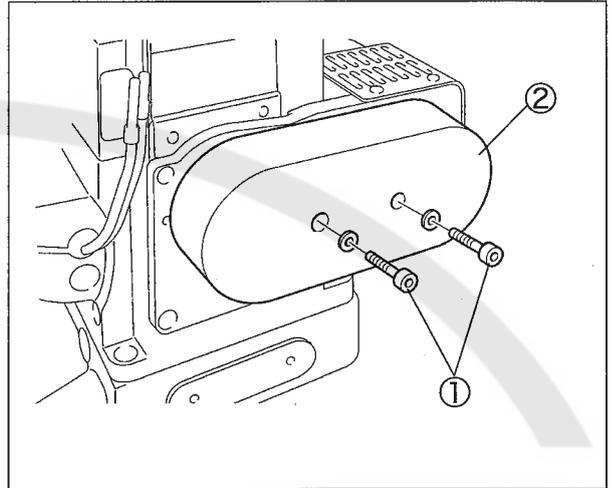

Fig. 10
1. Loosen the screws① to remove the belt cover②. (Fig. 10)
4. Reinstall the belt cover②. (Fig. 10)